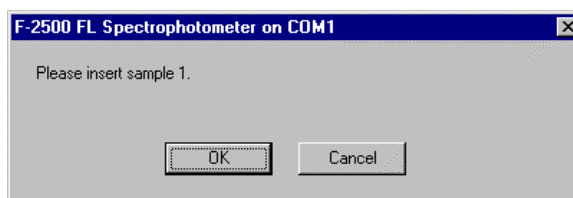

Fig. 2-11
- (3) The dialog box as in Fig. 2-11 will open. Set each sample and click **OK**.